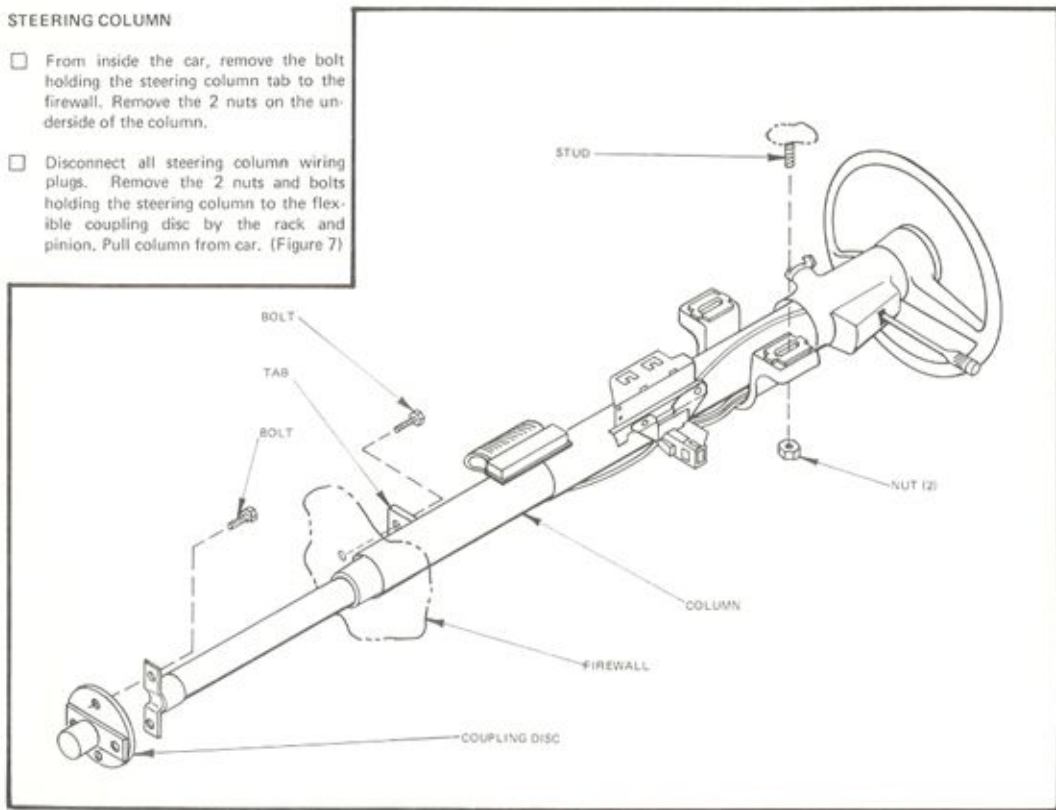

Figure 7
- Disconnect all steering column wiring plugs. Remove the 2 nuts and bolts holding the steering column to the flexible coupling disc by the rack and pinion. Pull column from car. (Figure 7)